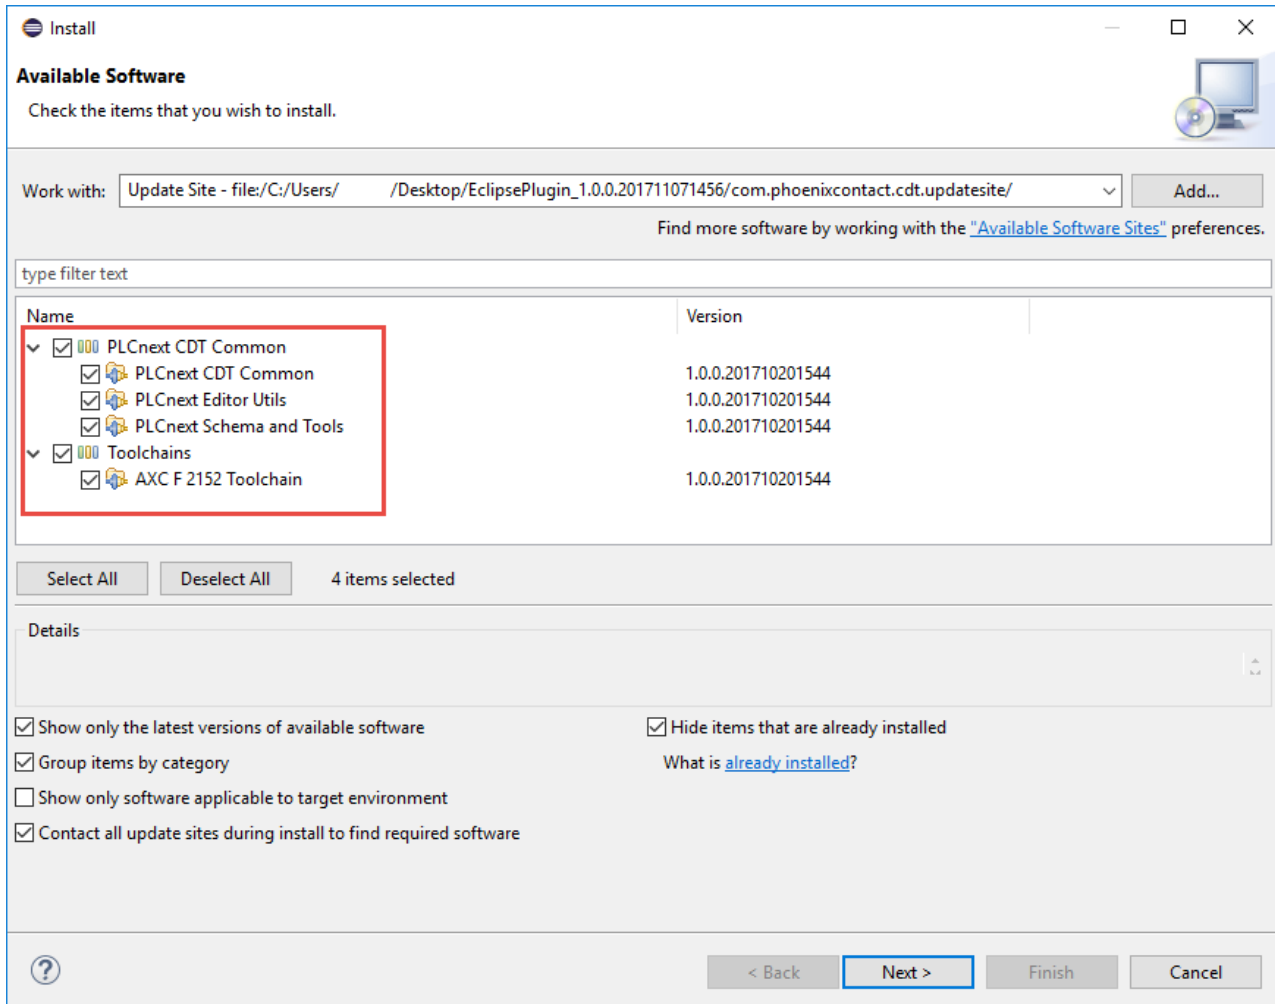

Figure 4-4 Selecting Phoenix Contact add-in components
- In the next dialog, select the components displayed in Figure 4-4.